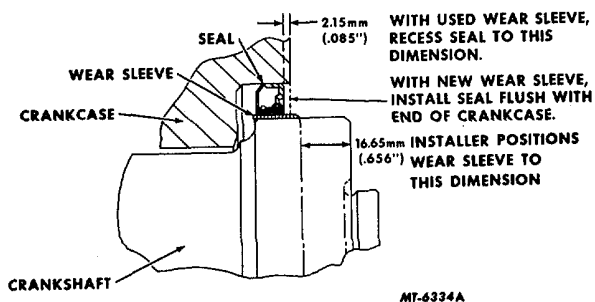

Fig. 153. Sectional View Showing Proper Location of Wear Sleeve and Rear Oil Seal
- (1) Where a new seal is being installed against a new wear sleeve, place seal flush with rear of crankcase (Fig. 153).
- (2) Where a new seal is being installed against a used wear sleeve, recess seal into crankcase bore (Fig. 153) to allow lip of seal to ride upon unworn surface of wear sleeve. (If wear sleeve shows more than one wear path, replace wear sleeve.)